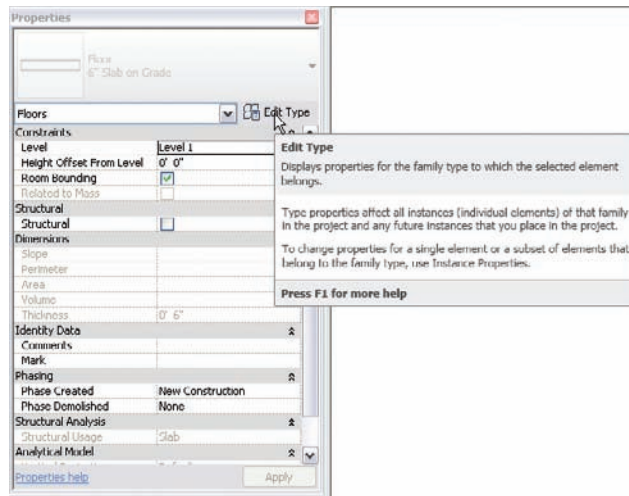

FIGURE 6.3 Clicking the Edit Type button to start creating a new floor slab
5. At the top-right of the dialog, you will see an Edit Type button. Click it (see Figure 6.3).